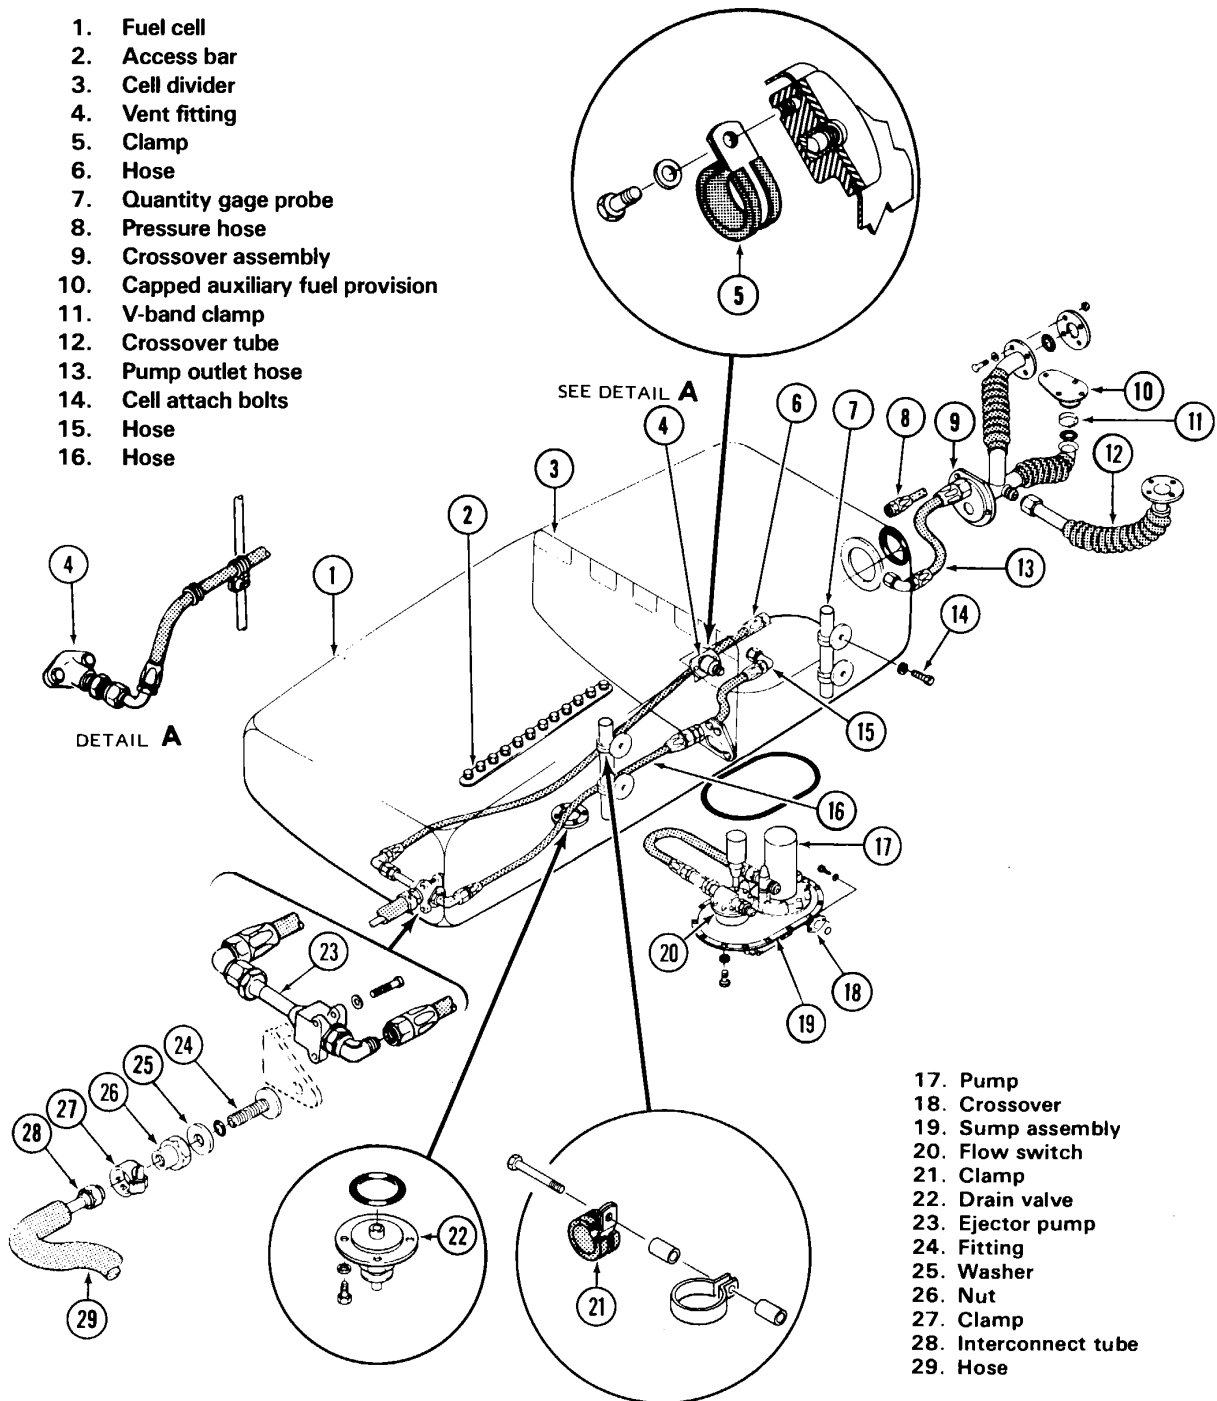

Figure 28-3. Forward fuel cell
28.8.1.5 Disconnect de-fueling valve crossover (18, Figure 28-3) at flange.
28.8.4.5 Place ejector pump (23, Figure 28-3), with attached hoses, into forward compartment of cell (1) with hose (6) outboard. Connect hose (15) to union on flapper valve assembly. Insert end of hose (6) through opening above cell divider at inboard side and attach hose support clamp with bolt and thin aluminum alloy washer to threaded insert at
28.8.4.19 Install sump assembly (19, Figure 28-3) as follows: